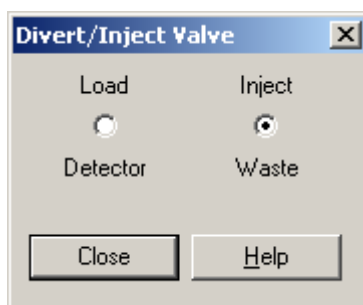

Figure 47. Divert/Inject Valve dialog box
9. Click the **Divert/Inject Valve** to open the Divert/Inject Valve dialog box. See Figure 47.